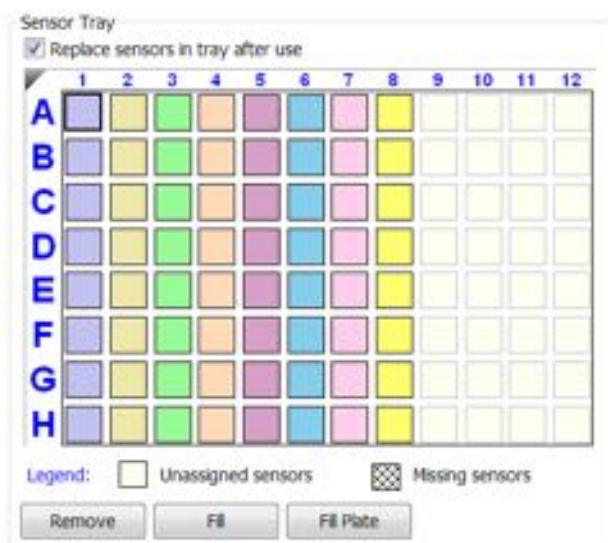

Figure 6-47: Replace Sensors in Tray After Use Check Box
10. Optional: After an assay is completed, the biosensors can be returned to the biosensor tray or ejected through the biosensor chute to an appropriate waste container. To return the biosensors to the tray, click the **Replace sensors in tray after use** check box (see Figure 6-47).